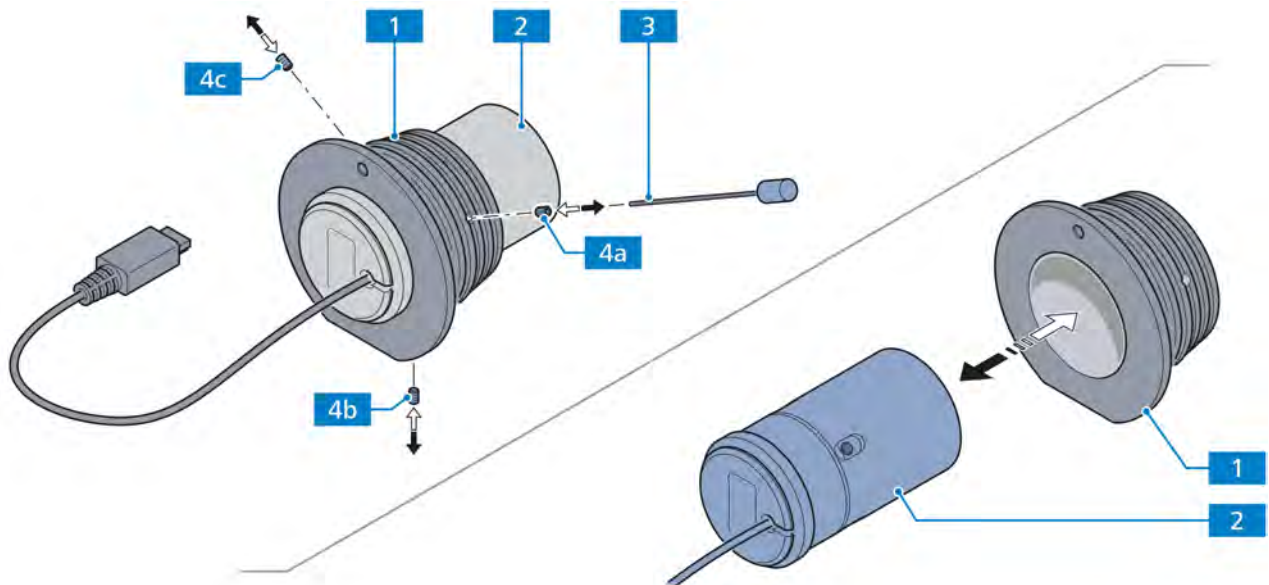

Fig. 3-18 Changing the LED illuminator in the adapter
- Loosen the three side screws (Fig. 3-18/4a, 4b, 4c) with an Allen wrench (AF 2.5) (Fig. 3-18/3) and remove the old LED illuminator (Fig. 3-18/2) from the adapter (Fig. 3-18/1).